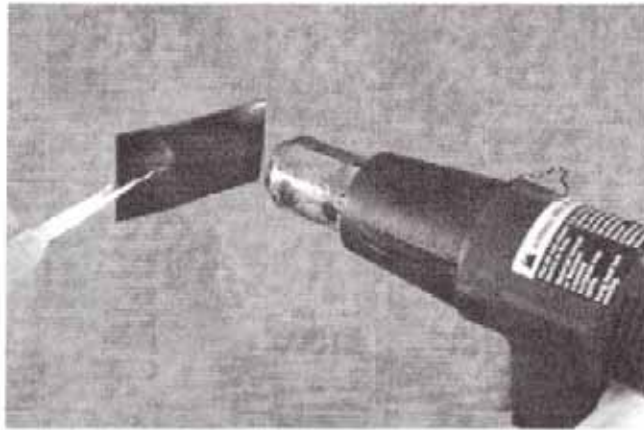

Figure 3: Heat gun used with Rubbn'Repair™
- Heat gun (see Figure 3) **Warning: Be careful not to overheat the material**